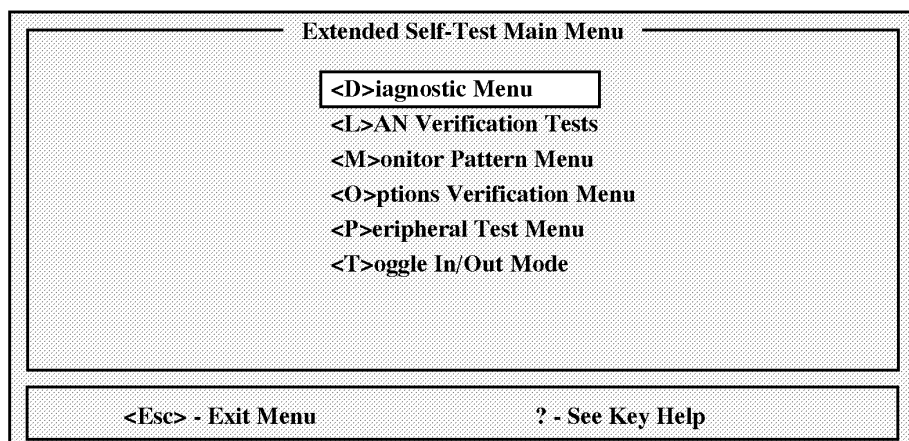

Figure 4–7: Extended Self Test Main Menu
9. After the selftest programs have transferred from the mainframe, the Extended Self Test Main Menu (see Figure 4–7) appears on the terminal.